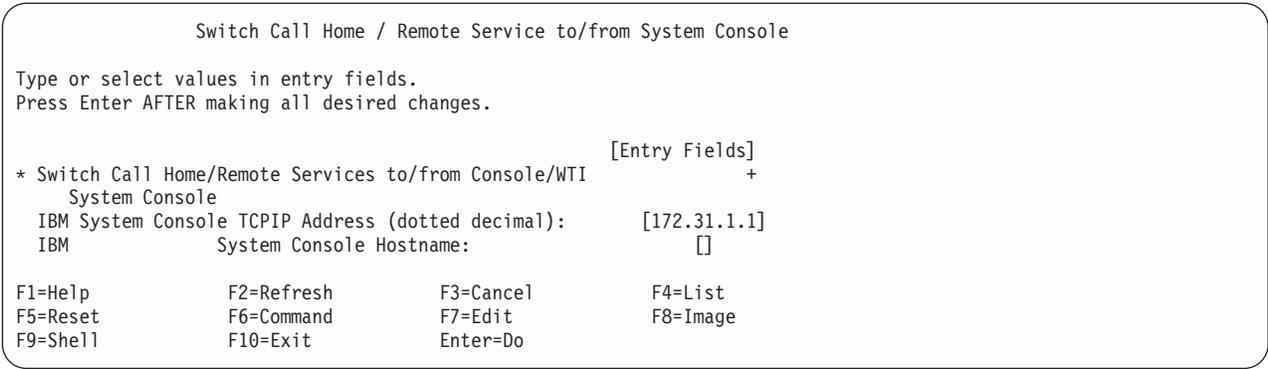

Figure 36. Switch Call Home/Remote Services to/from System Console
2. At Figure 35, on Models VTS, VTC, A60 & J70, select **Switch Call Home / Remote Services to/from System Console**, and press **Enter**. Figure 36 on page 30 displays.